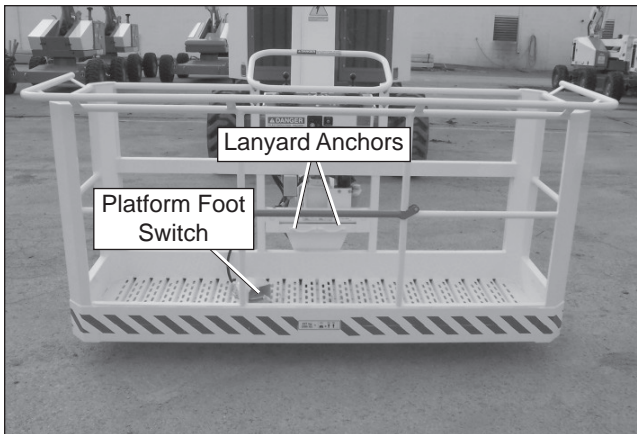

Figure 8.4 – Platform
2. Step down on the platform foot switch (refer to Figure 8.4). This switch must be held down to operate the upper controls.